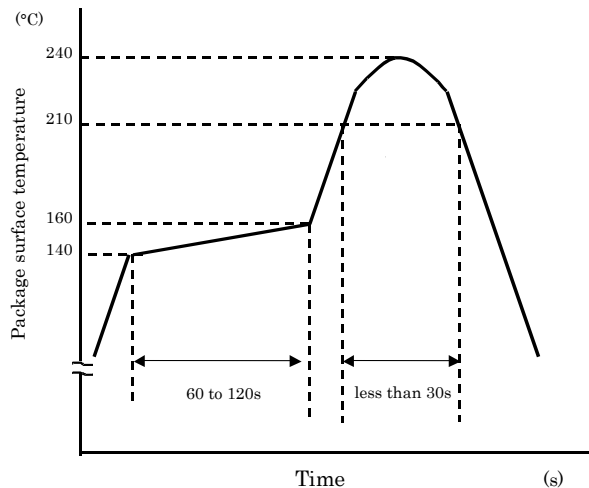
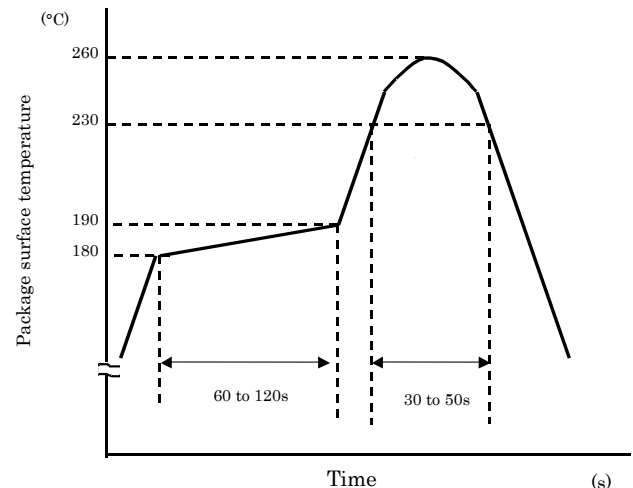

Fig2. An example of a temperature profile
Fig 3. An example of a temperature profile
(Fig.2) Switching Time Test Circuit
- When using soldering reflow (See Fig2 and Fig3)